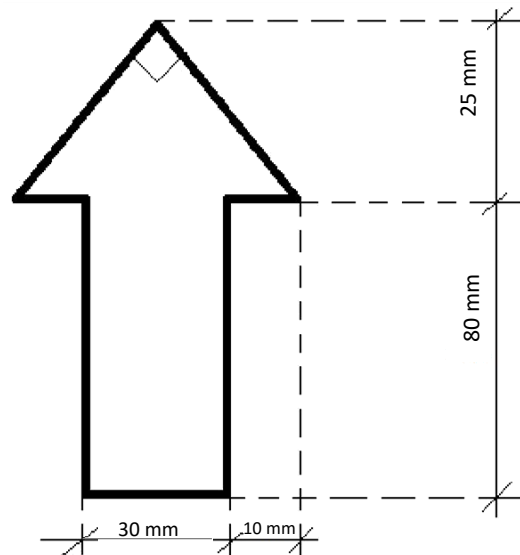

Figure 4- Arrow Dimensions
3. Each arrow will be 10.5cm long, 3cm wide at the base, and 5cm wide at the head (figure 4).